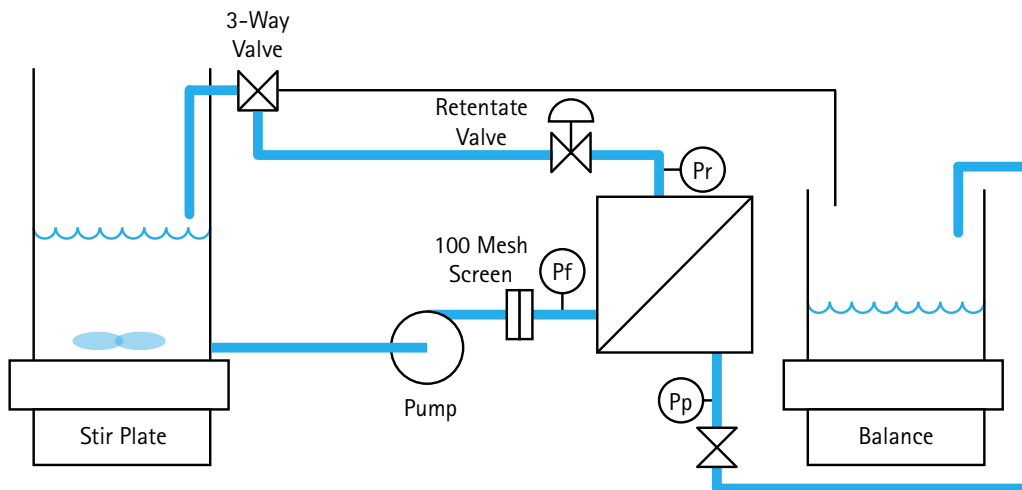

Figure 4.
- 3.3 Allow the system to recirculate for a minute or two. Measure the temperature of the feed vessel contents. Set the system flowpath to the UF concentration mode (Figure 4) and measure the change in mass over an elapsed time of 1 min, to find the permeate flowrate.